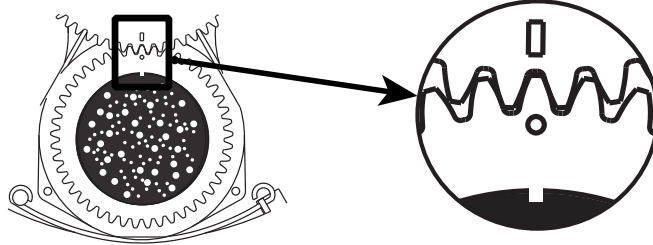

Figure 15: Replacing gobos in a gobo holder
4. Insert the gobo holder and align it with the index mark in the gobo wheel, as shown below in figure 15.